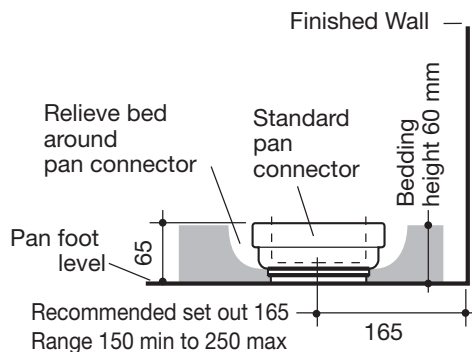
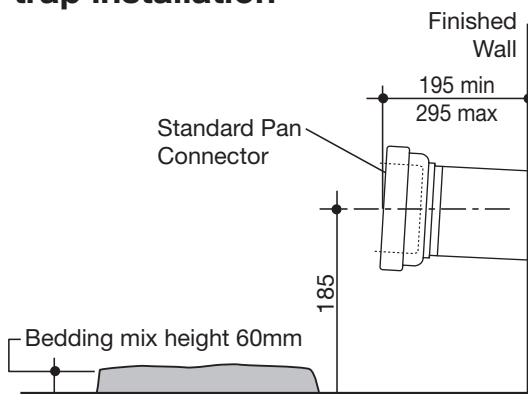

Fig. 1
Fig. 2
The soil pipe and pan collar should be accurately fixed into position as recommended for Stylus cisterns, as detailed in Figure 1 and Figure 2.
3. Prepare bedding sand cement mixture 3:1 to depth of 65mm as detailed in Figure 1 and Figure 2.